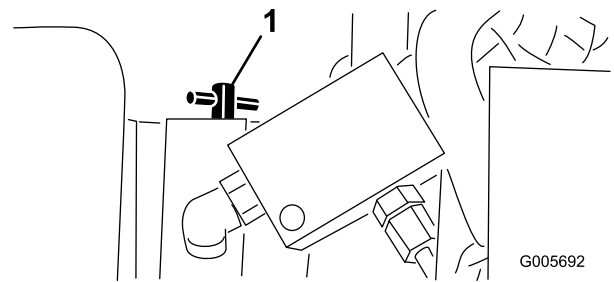

Figure 16
1. Reach in and rotate bypass valve on transmission (Figure 16) counterclockwise 1/2 to 1 turn. Opening the valve opens an internal passage in the pump, thereby bypassing transmission oil. Because fluid is bypassed, the machine can be pushed without damaging the transmission.